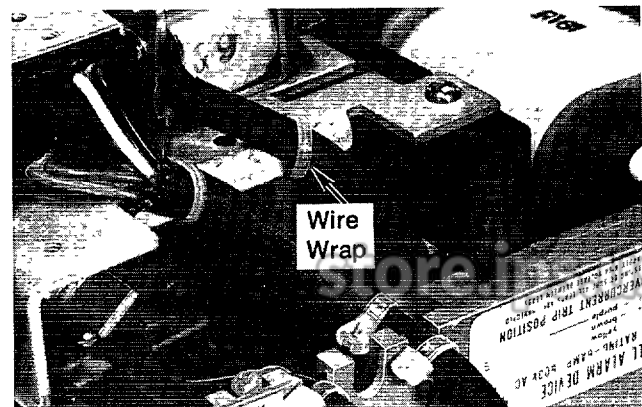

Fig. 8
- Use the wrap provided to secure leads to mounting plate as shown in Fig. 8.